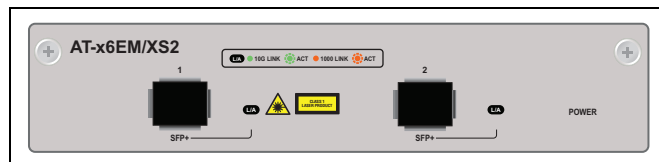

Figure 31. AT-x6EM/XS2 Stacking Module
- ❑ The AT-x6EM/XS2 has two 10 Gbps SFP+ stacking slots, shown in Figure 31. Note that the port speed of the AT-x6EM/XS2 is fixed at 10 Gbps.